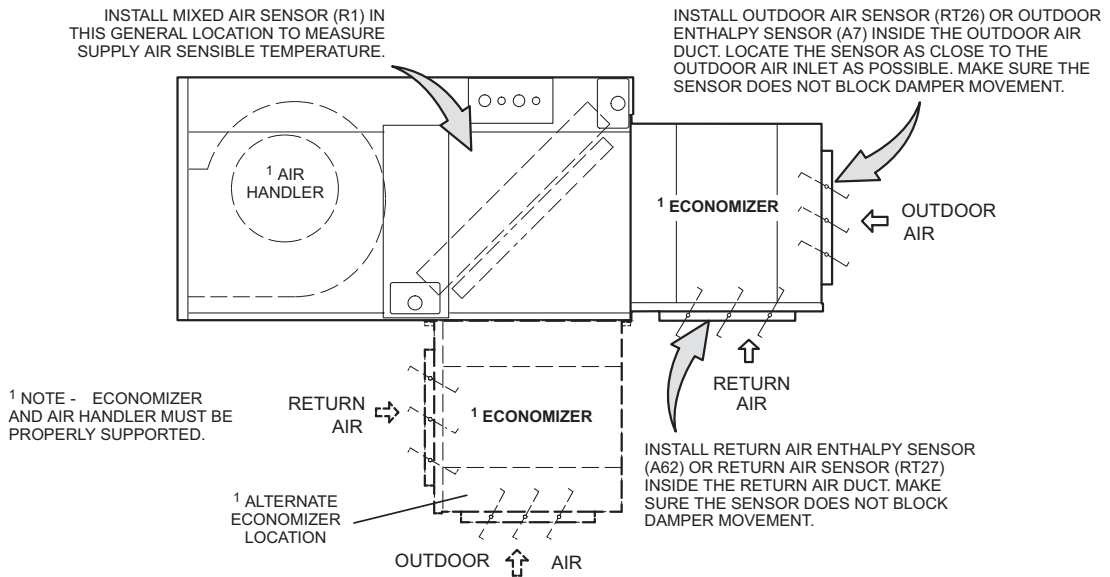

Figure 5
- 3 - Replace existing RT26 OA sensor, if applicable, and replace with new A7 sensor from this kit. See figure 5 for sensor location.
- 4 - Remove economizer control access panel. See figure 5.
- 3 - Replace existing RT26 OA sensor with new A7 kit sensor set to "OA". See figure 5 for sensor location.